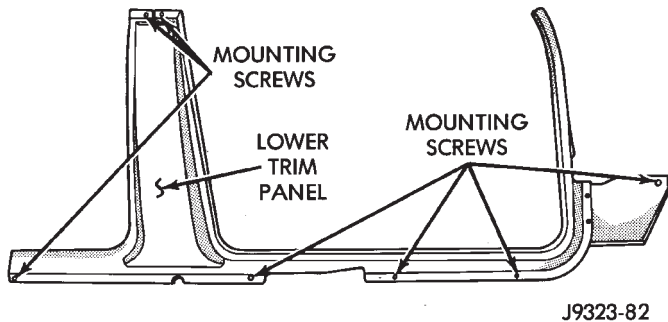

Fig. 44 B-Pillar Trim Panel
- (1) Remove the A-pillar trim panel.
- (2) Remove upper B-pillar trim panel.
- (3) Remove screws attaching lower B-pillar trim panel to B-pillar (Fig. 44).
- (4) Remove screws attaching cowl trim panel.
- (5) Separate lower B-pillar trim panel from B-pillar.
- (6) Route seat/shoulder belt through access slot in lower B-pillar trim panel.